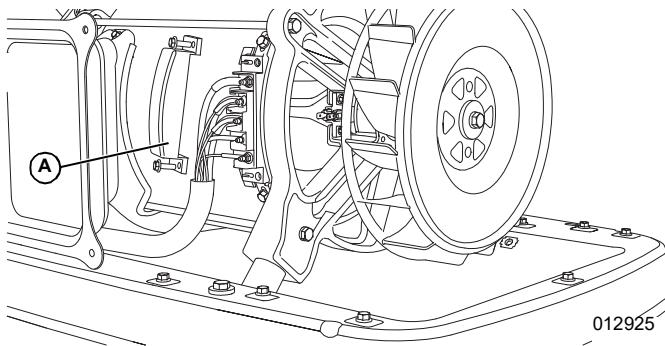
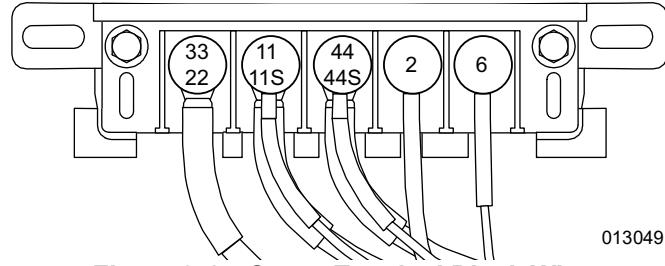

Figure 2-16. Stator Terminal Block (STB)
Figure 2-17. Stator Terminal Block Wires
4. See **Figure 2-16** and **Figure 2-17**. Remove the stator terminal block cover (A) and identify the studs containing Wires 2 and 6.
- See **Figure 2-16**. If the meter indicated a resistance value of OPEN in Procedure A, but a resistance value consistent with the values found in **Specifications** in Procedure B or Procedure C, repair or replace Wire 2 and/or 6 between the referenced connection points. Measure continuity on Wire 2 or Wire 6 between the referenced connection points to confirm which (or both) wire(s) is/are open.